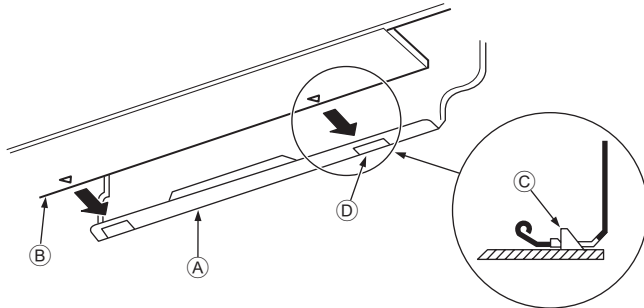

Fig. 3-16
3. While inserting the refrigerant piping and drain hose into the wall penetration hole (penetration sleeve), hang the top of the indoor unit to the mount board ①.
5. Fasten by pushing the bottom part of the indoor unit onto the mount board ①. (Fig. 3-16)
- * Check that the knobs on the bottom of the indoor unit are securely hooked into the mount board ①.
- ① Mount board
- ② Indoor unit
- ③ Hook
- ④ Square hole